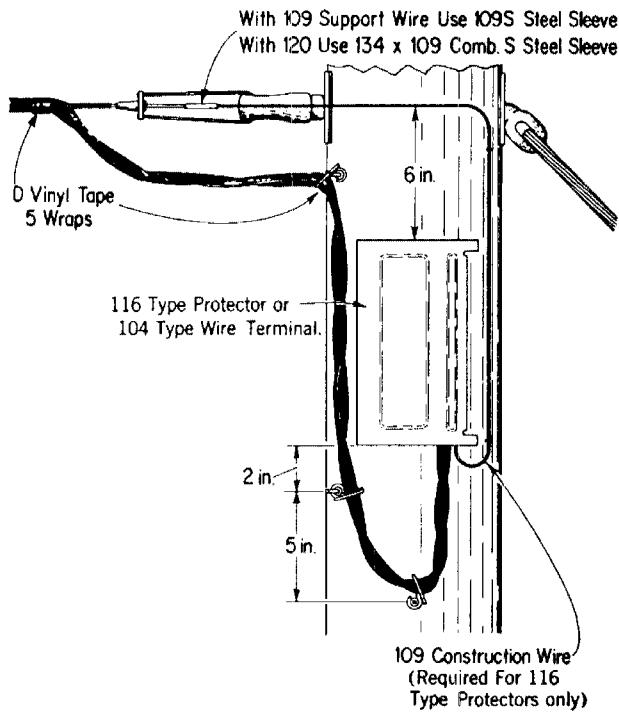

Fig. 12 — At Wire Deadend Pole
4.01 At wire deadend poles, 6-pair wire terminals or protectors can be located as shown in Fig. 12.